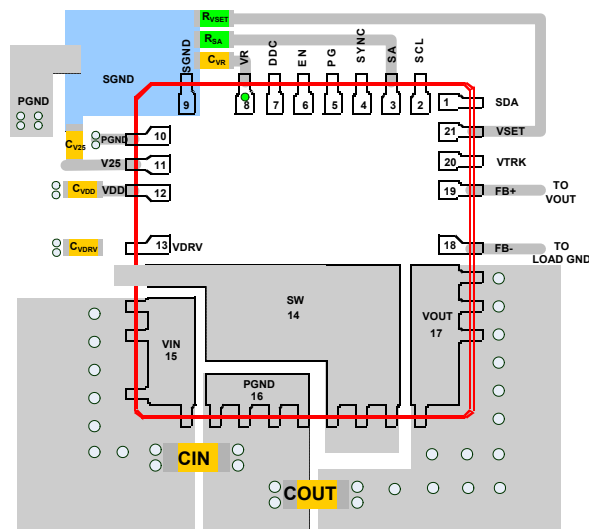

FIGURE 19. RECOMMENDED LAYOUT
- Establish a separate ground plane for SGND (pin 9) and PGND (pin 10 and pin 16) and connect them at a single point as shown in the Figure 19. CV25, CVR, RSA and RVSET are placed on the bottom layer and are connected to a single SGND plane that is connected to the PGND at a single point. This will help to block the high frequency noise from entering to the controller via SGND.
- Place a high frequency ceramic capacitor between (1) VIN and PGND (pin 16), (2) VOUT and PGND (pin 16) and (3) bypass capacitors between VDRV, VDD, V25, VR and the ground plane, as close to the module as possible to minimize high frequency noise. High frequency ceramic capacitors close to the module